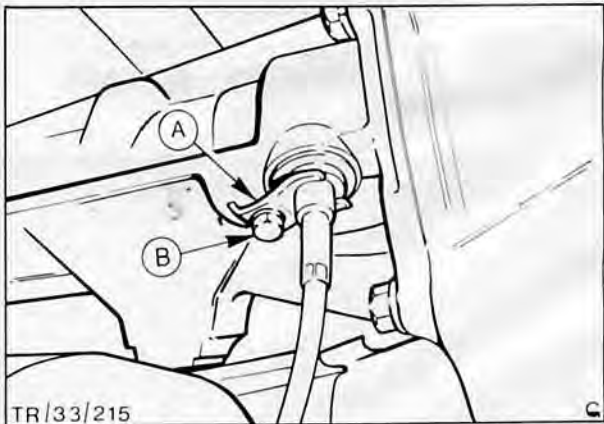

Fig. 27. Cable at gearbox end
4. Remove seal (where fitted), cable clamp and bolt at gearbox and remove cable from gearbox drive, Fig. 27.